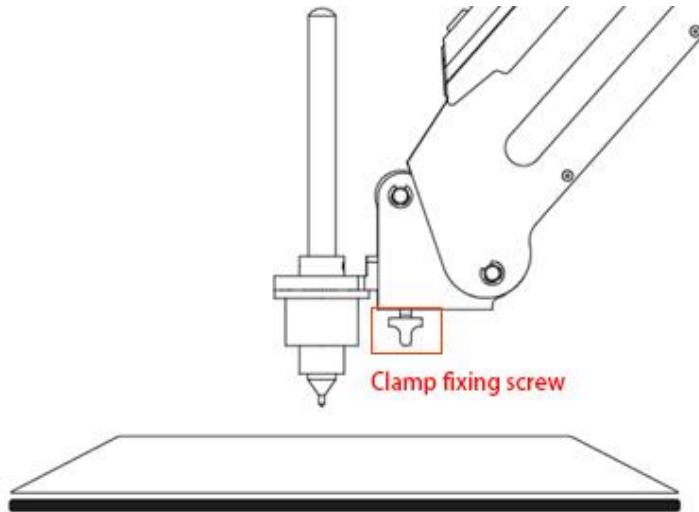

Figure 5.29 Install a writing and drawing kit
**Step 2** Fasten the writing and drawing kit to the Dobot Magician's end with clamp fixing screw, as shown in Figure 5.29.